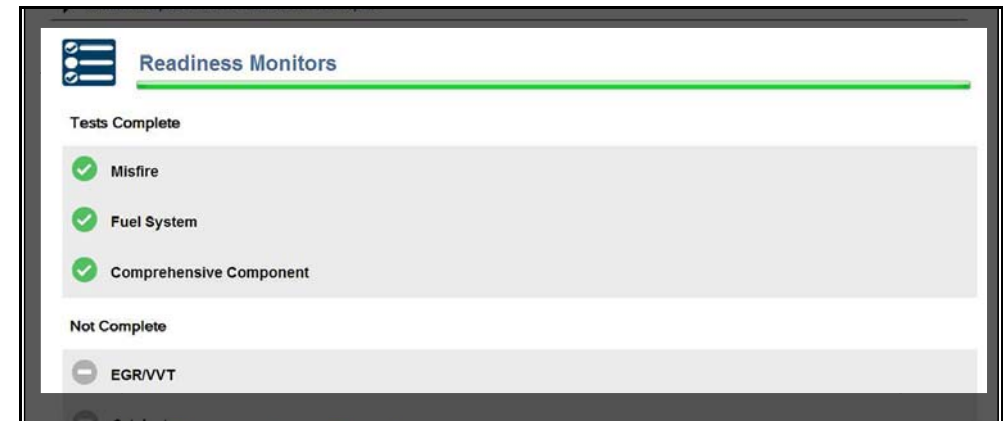

Figure 5-24 Readiness Monitor status
- **Readiness Monitor Test Status.** At the end of the Code Scan Report, readiness monitor test results are displayed as "Tests Complete" or "Not Complete" (Figure 5-24).